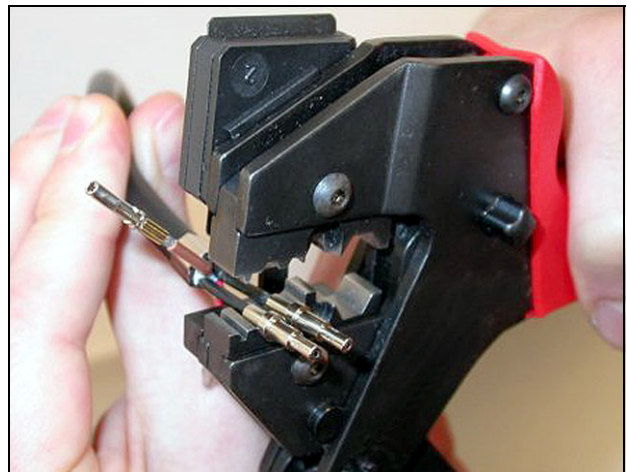

figure 22.24: Crimping ferrules (2)
- 24 Put both ferrules in the crimping tool (tool 3, see figure 22.24).